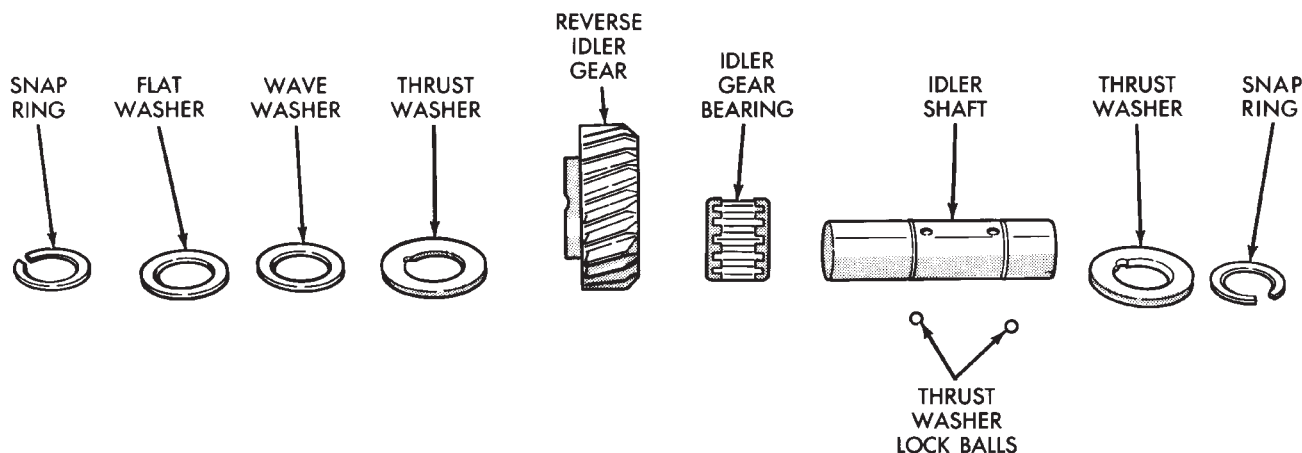

Fig. 51 Reverse Idler Components
- (1) Remove idler gear snap rings (Fig. 51).
- (2) Remove thrust washer, wave washer, thrust plate and idler gear from shaft.
- (3) Remove idler gear needle bearing from shaft.